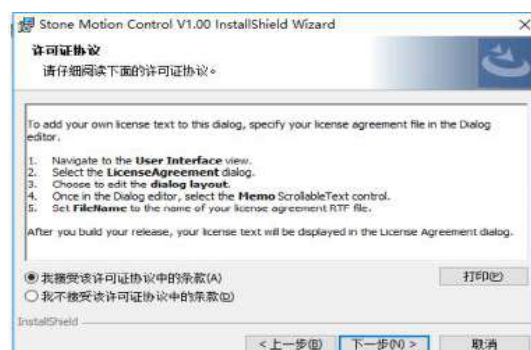

Figure 6-2 Installation agreement
3. Click "**Next**". The agreement dialog box pops up, as shown in Figure 6-2.